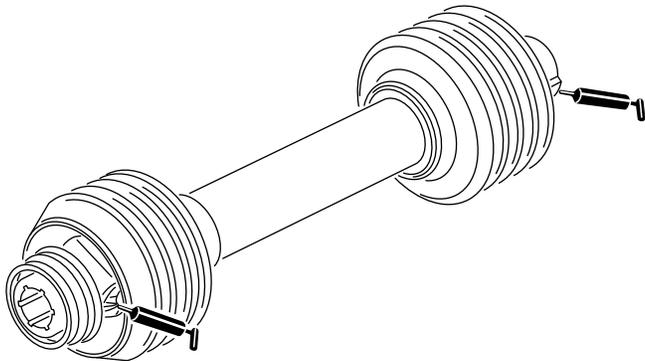

Figure 10
2. Grease the fittings on the fan shaft bearings as illustrated in Figure 10 with No. 2 lithium grease.
Grease the 2 drive shaft fittings as illustrated in Figure 10 with No. 2 lithium grease.